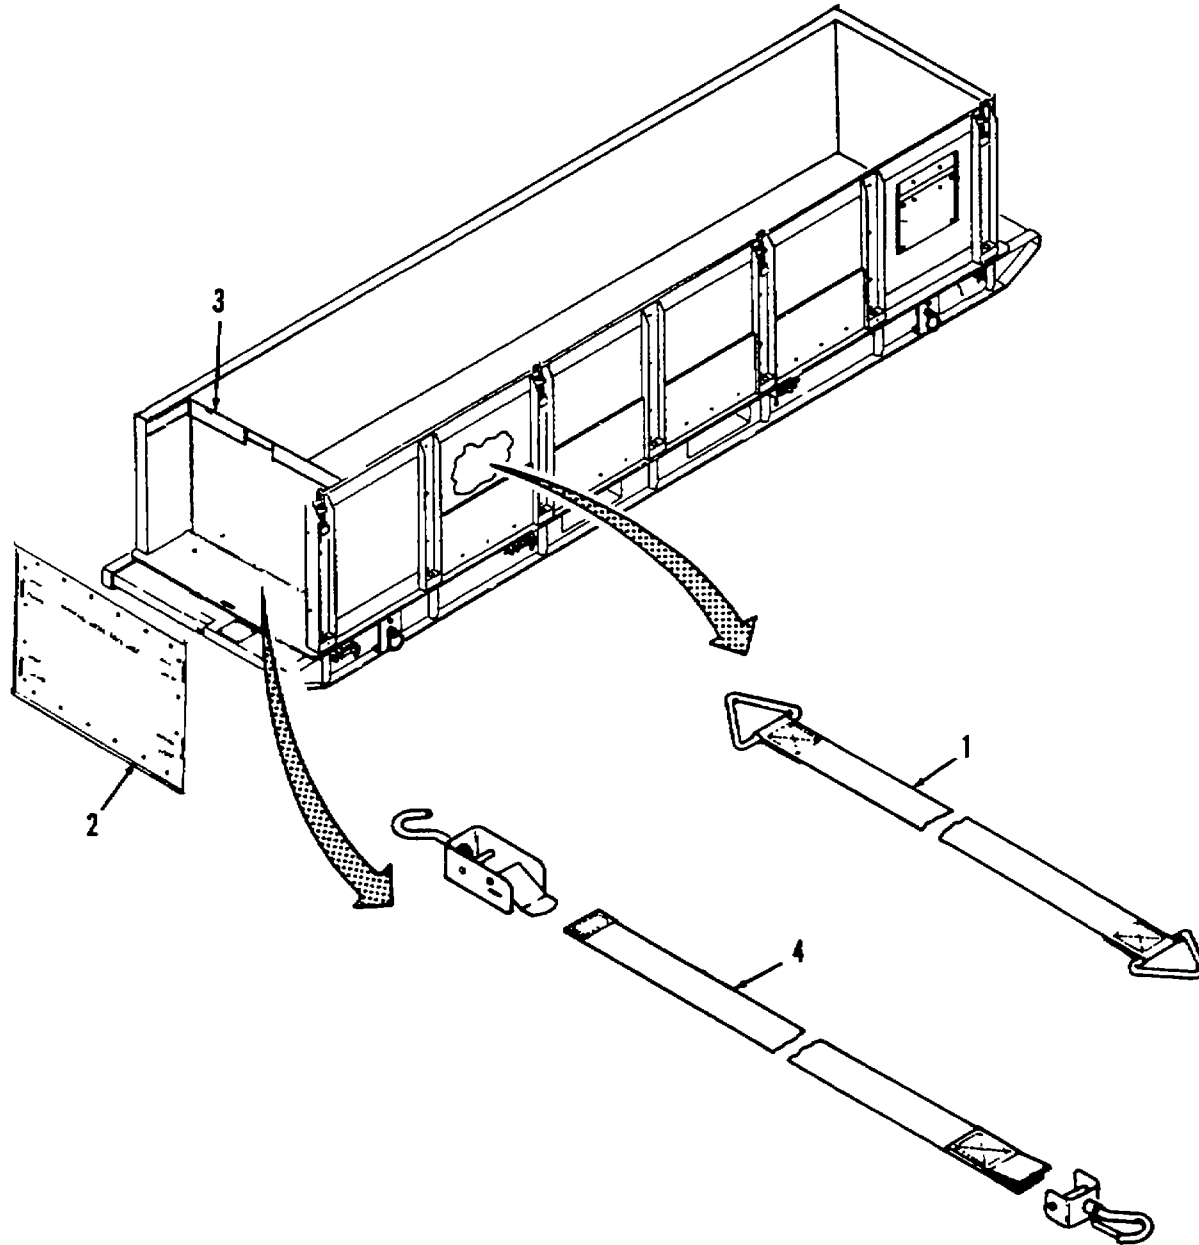

Figure 4-5. Strap Assemblies Replacement.
a. Removal. (Refer to Figure 4-5.)
- (1) Remove four hoisting straps (1) from storage area between end panel assembly (2) and storage divider pan (3).
- (2) Remove four tie-down straps (4) from storage area between end panel assembly (2) and storage divider pan (3).